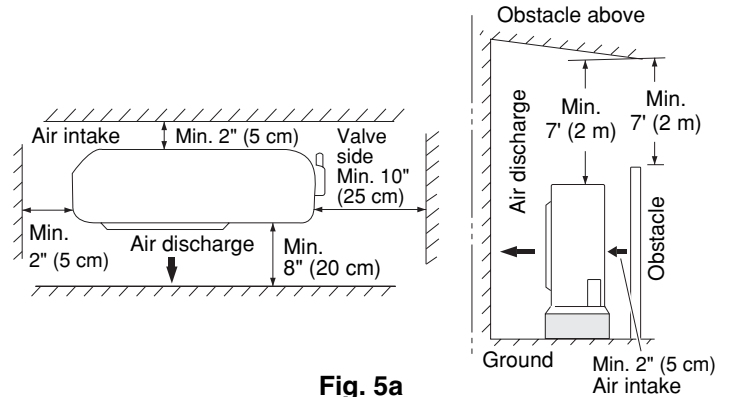

Fig. 5a
- allow enough room around the unit for air intake/ exhaust and possible maintenance. (Fig. 5a)